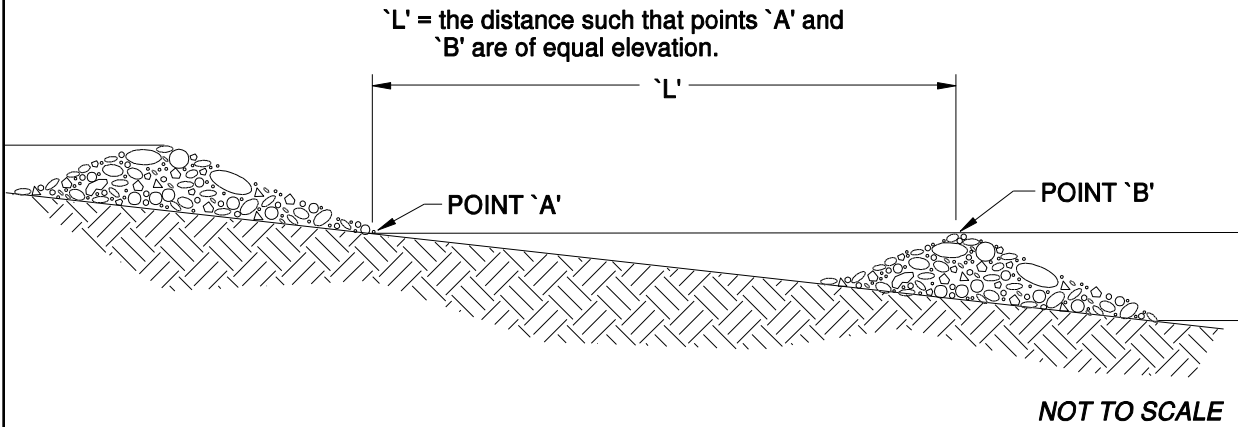

Figure 4.13 – Check Dams
- Ensure that channel appurtenances, such as culvert entrances below check dams, are not subject to damage or blockage from displaced stones. Figure 4.13 depicts a typical rock check dam.